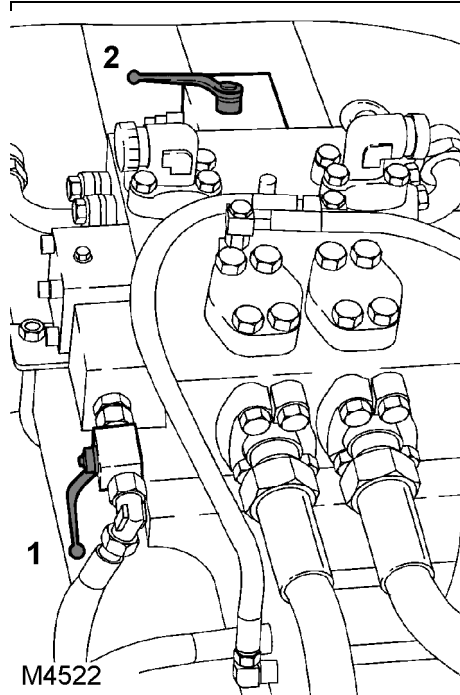

Fig. 337
- Close the stopcock (1) (**Fig. 337**) on the concrete pump control block. Closing the ball valve prevents the piston rods from switching into their end positions.
- Open the stopcock (1) (**Fig. 337**) on the concrete pump control block.